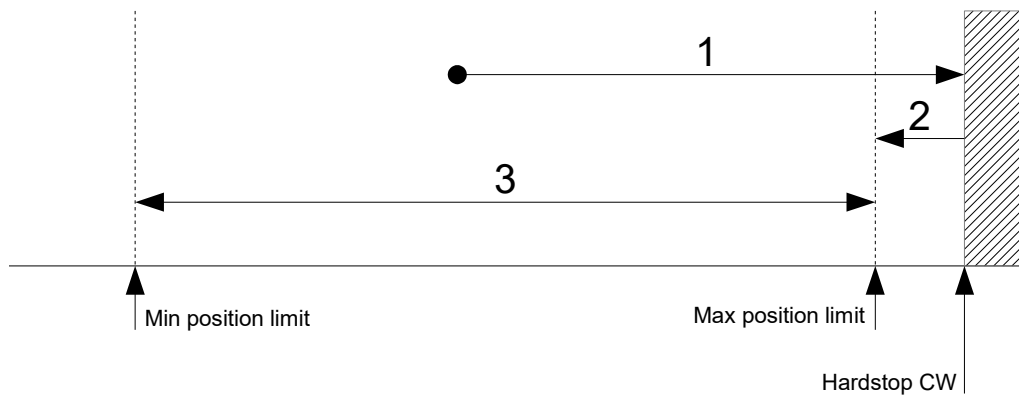

Figure 5: Single ended homing CW
For this homing method, the motor is driving with a constant positive velocity (6099_h:2) clockwise into a hard stop (1) as shown in figure 5. While driving into the hardstop the actual motor current is measured and compared with the current threshold (2025_h:4). If the current threshold is reached, the motor moves back by -PositionOffset_CW (2025_h:2) encoder steps (2). Then the motor is stopped and the actual position (6064_h) is set to 0. The max position limit (607D_h:2) is also set to 0. The velocity is limited to (6099_h:1). The min position limit (607D_h:1) will not be changed during this homing method and can be set before homing to limit the position range.